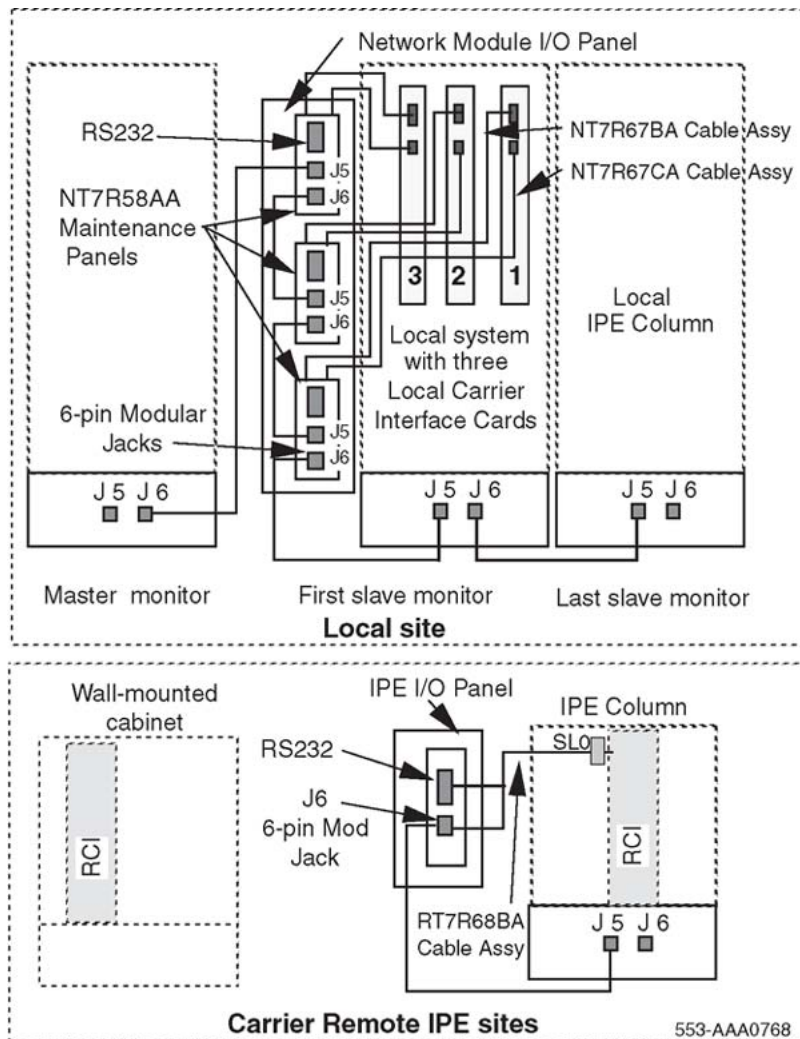

Figure 13: System monitor connections at the local site and the Carrier Remote IPE
To daisy-chain the system monitor cables to multiple columns and multiple NT7R51 Local Carrier Interface cards, refer to Figure 13: System monitor connections at the local site and the Carrier Remote IPE on page 79 and Appendix C, Figure 30: Local site system monitor connection diagram \(single and multiple LCI configuration\) on page 183, and follow the steps in Connecting multiple Local Carrier Interface cards to the system monitor on page 78
1. Starting from the top, as shown in Figure 13: System monitor connections at the local site and the Carrier Remote IPE on page 79, plug the NT8D46AL cable 6-pin modular plug from one NT7R58AA Maintenance Panel assembly 6-pin modular jack J6 into the 6-pin modular jack J5 on the next NT7R58AA Maintenance Panel assembly.
3. Connect J5 modular jack of the top NT7R58AA Maintenance Panel assembly in Figure 13: System monitor connections at the local site and the Carrier Remote IPE on page 79 to the J6 modular jack of the next system monitor towards master system monitor using the NT8D46AL modular cable.
Figure 13: System monitor connections at the local site and the Carrier Remote IPE on page 79 shows system monitor daisy-chain connections at local and Carrier Remote IPE